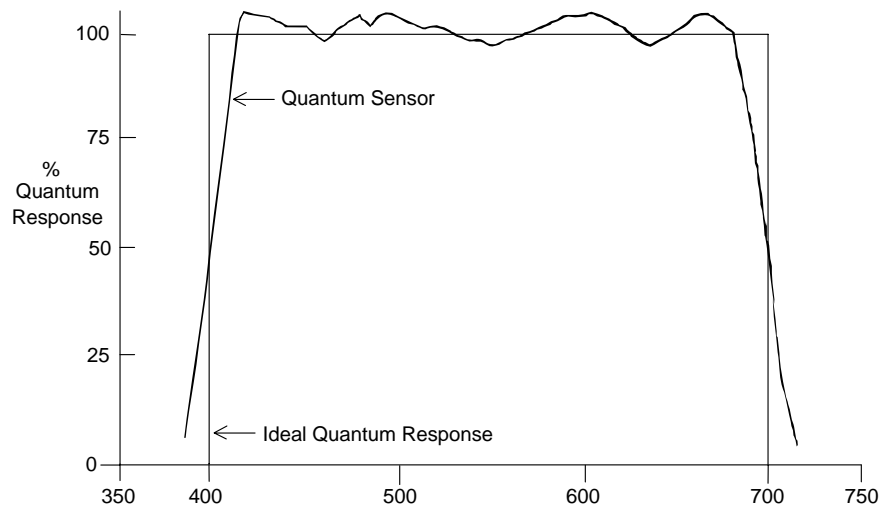

Figure 1 Typical Spectral Response of SKP215
- Sensitive to light between 400nm and 700nm wavelength (see Figure 1)